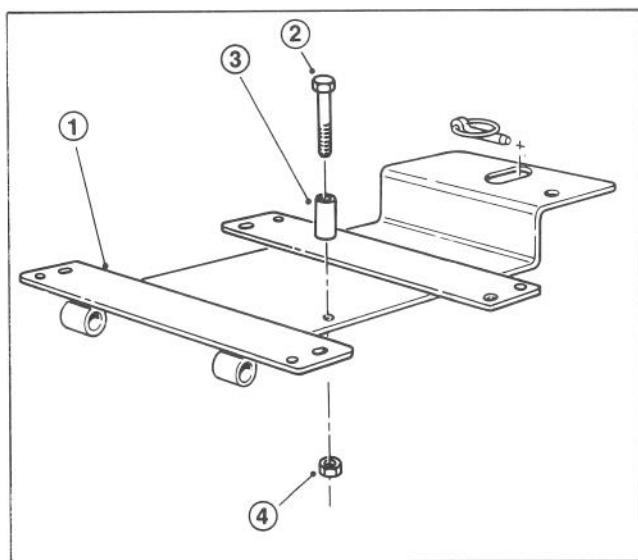

Figure 10
5. Assemble spacer to hex head capscrew, insert capscrew into hole in the seat support and secure capscrew and spacer with a locknut at the bottom of the seat support (Fig. 10).